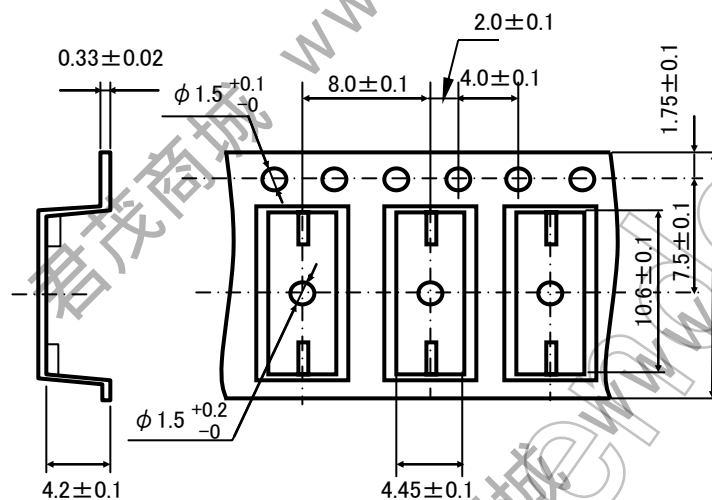

Figure 2 Tape Forms
(1) Tape material: Plastic
(2) Dimensions: The tape dimensions are as shown in Figure 2.